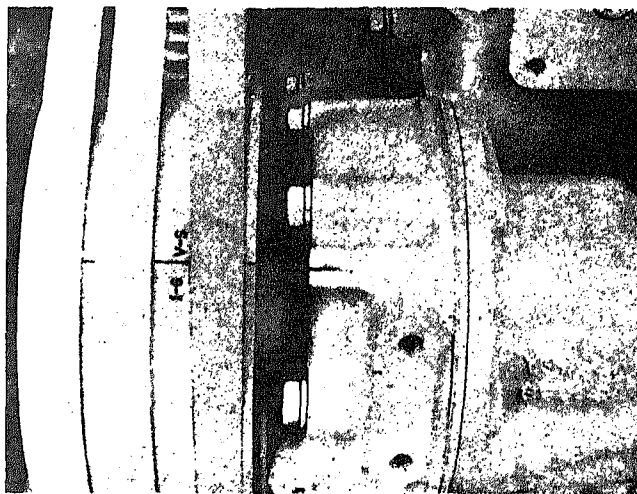

Fig. 14-1-82. Timing marks on accessory drive pulley
2. Continue rotating crankshaft until valve set mark on accessory drive pulley aligns with timing marks on gear cover, Fig. 14-1-82 (1-6 VS on 6-cylinder engines).